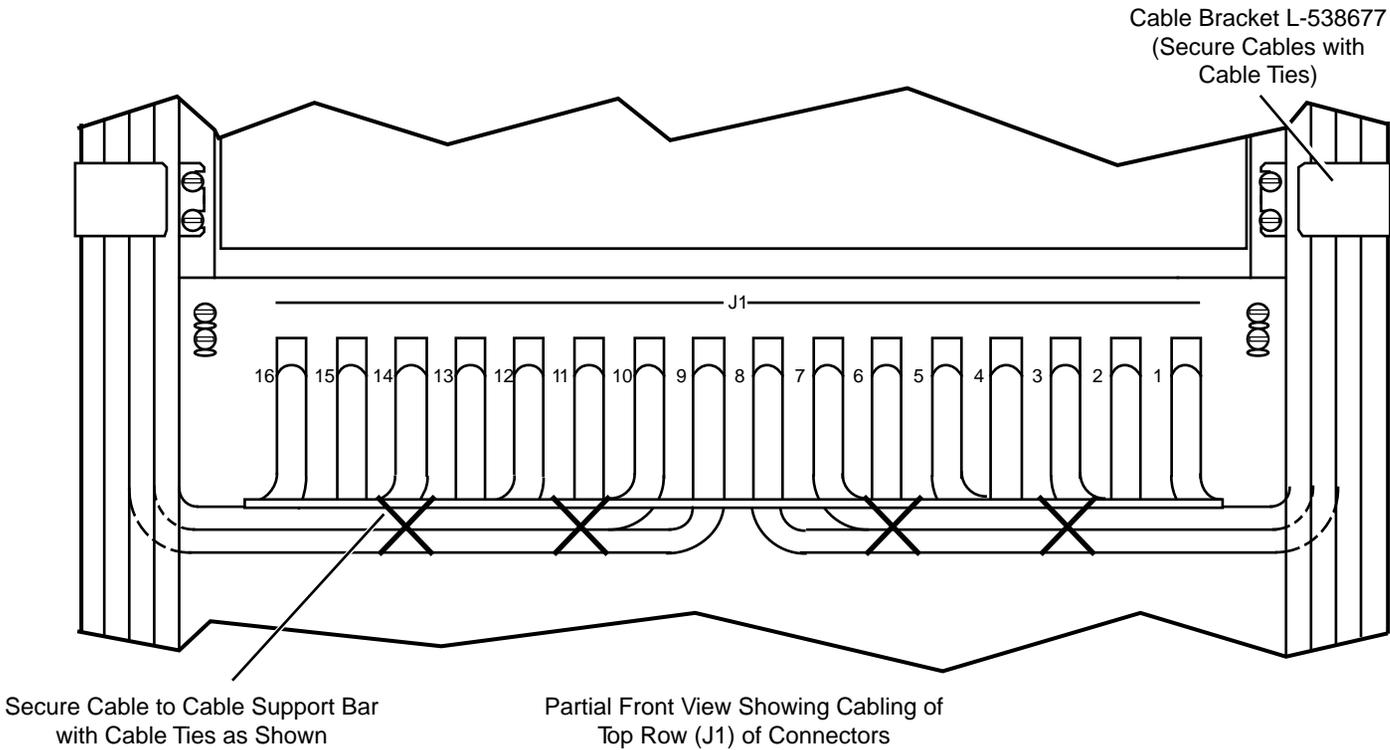

FIGURE 2-12. Cable Routing, Rear View
2. Hold the I/O board with the headers facing up, and fit the three cables through the slot at the bottom of the board. The cables should enter the slot from the front, slide around the back, and return to the front of the board through the slot in the middle; see Figure 2-12.
3. The cables should hang straight down in a neat bundle at the rear of the SAM504. Fold the bundle once in a right angle, as shown in Figure 2-12, so you can pass it through the space provided between the Fan Shelf and the patch panel. Then let the bundle hang down inside the panel at the front of the SAM504.